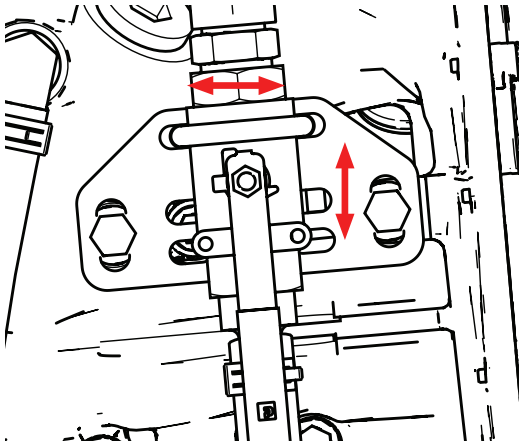

Figure 5
11. Adjust the vertical position of the mounting plate, and horizontal position of the U-bolt so the ball valve rests in its natural assembled position, see Figure 5.